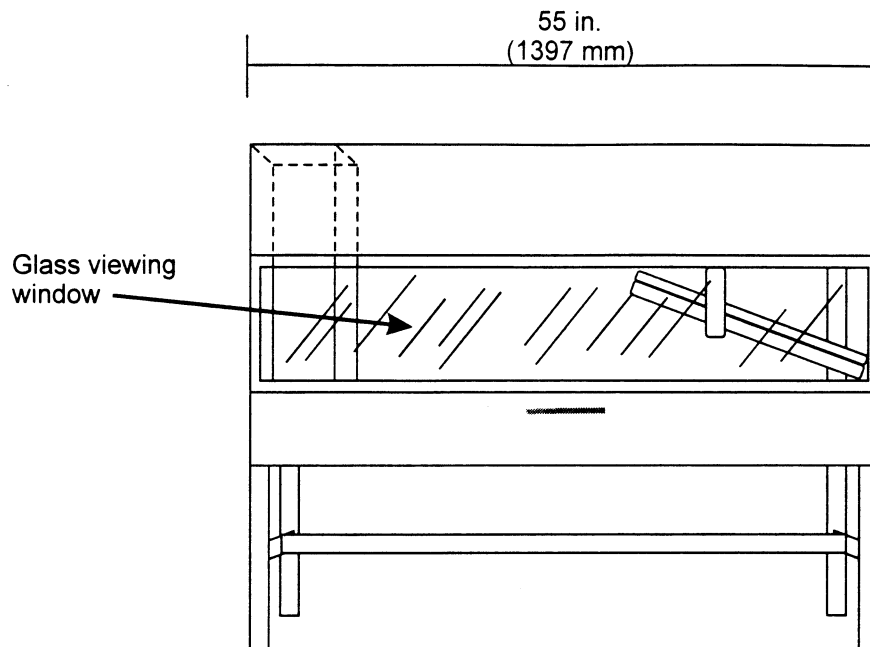

Figure 1 - Radiant Panel Test Chamber
(1) *Radiant panel test chamber.* Conduct tests in a radiant panel test chamber (see figure 1 above). Place the test chamber under an exhaust hood to facilitate clearing the chamber of smoke after each test. The radiant panel test chamber must be an enclosure 55 inches (1397 mm) long by 19.5 (495 mm) deep by 28 (710 mm) to 30 inches (maximum) (762 mm) above the test specimen. Insulate the sides, ends, and top with a fibrous ceramic insulation, such as Kaowool M™ board. On the front side, provide a 52 by 12-inch (1321 by 305 mm) draft-free, high-temperature, glass window for viewing the sample during testing. Place a door below the